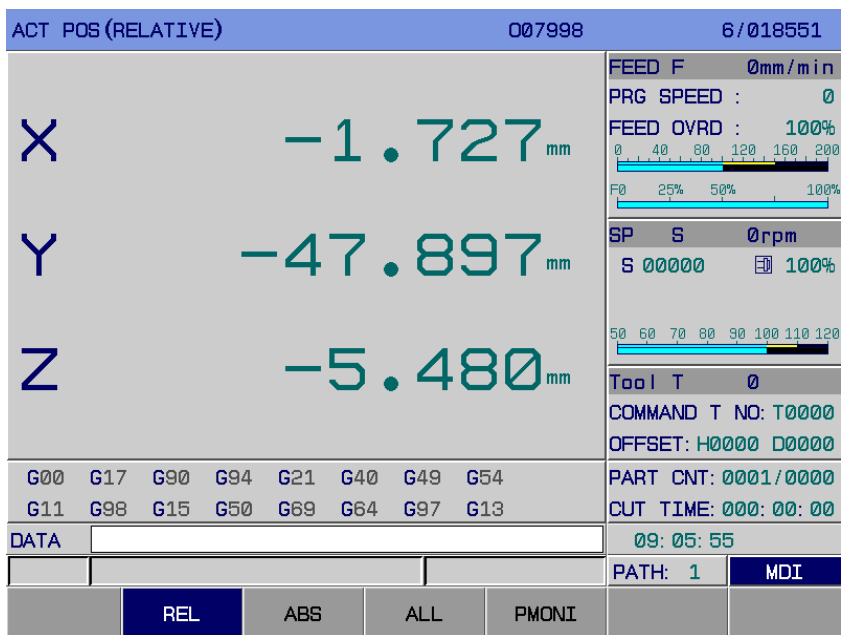

Fig. 3-1-1-1
- 1) Relative coordinate: Display the position of the current tool at the relative coordinate system by the 【RELATIVE COORDINATE】 softkey. (Refer to the Fig. 3-1-1-1).
- 2) Absolute coordinate: Display the position of the current tool at the absolute coordinate system by the 【ABSOLUTE COORDINATE】 softkey. (Refer to the Fig. 3-1-1-2).